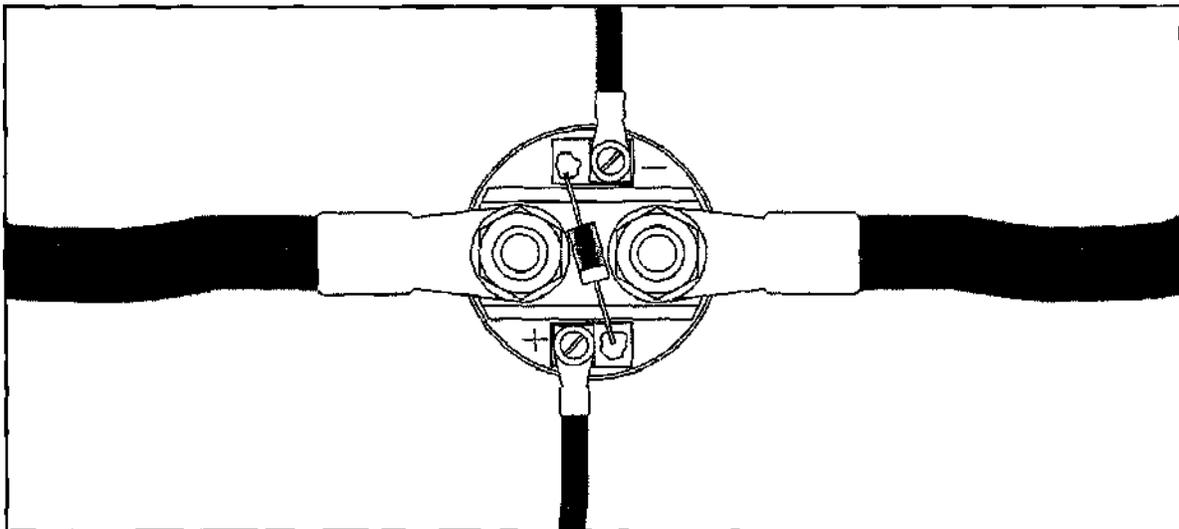

Fig 12, Isolation relay wiring
18. Route the red/green/violet wire from the fuse middle row cavity to the isolation relay. Crimp a ring terminal on the other end of the wire and connect it to the positive coil terminal of the relay. See **fig.12**. The isolation relay has a reversed-biased clamping diode connected in parallel to the coil circuit. This diode suppresses the voltage peaks generated during the collapse of the coil's magnetic field (e.g. when interrupting the power to the relay). Proper polarity must be observed to avoid damage to the diode (do not forward bias the diode).